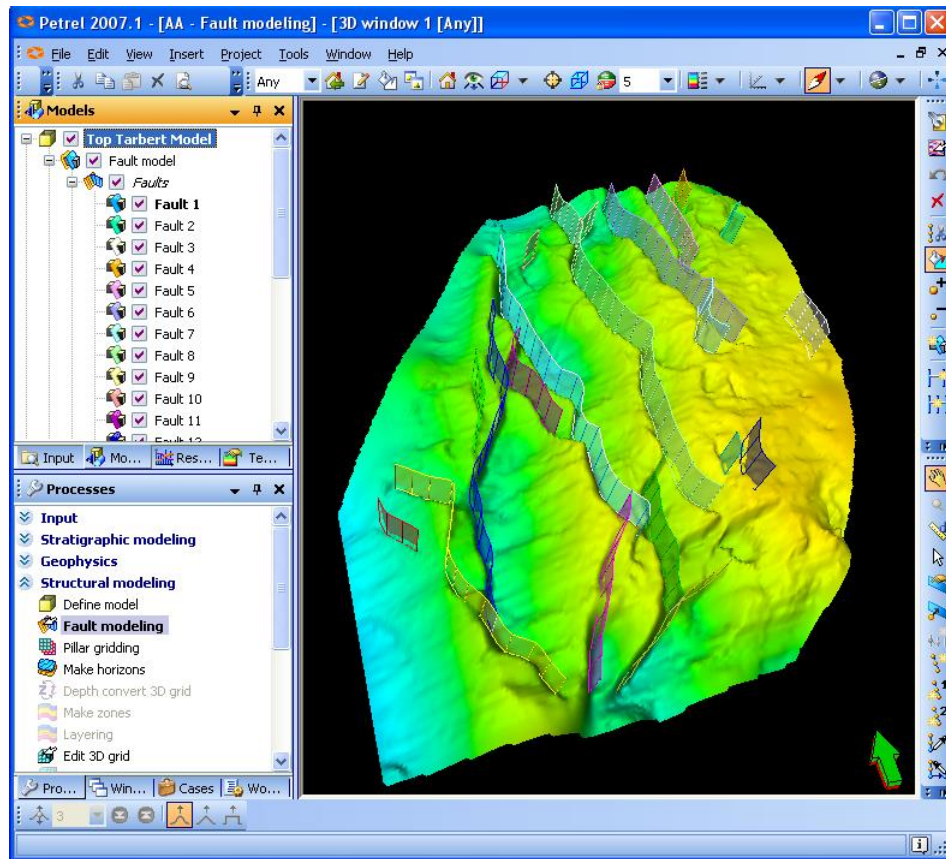

Fig. 11.7: Fault Polygons displayed in a 3D window along with Top Tarbert surface
7. Repeat the same process for all fault polygons as shown in fig.11.7.